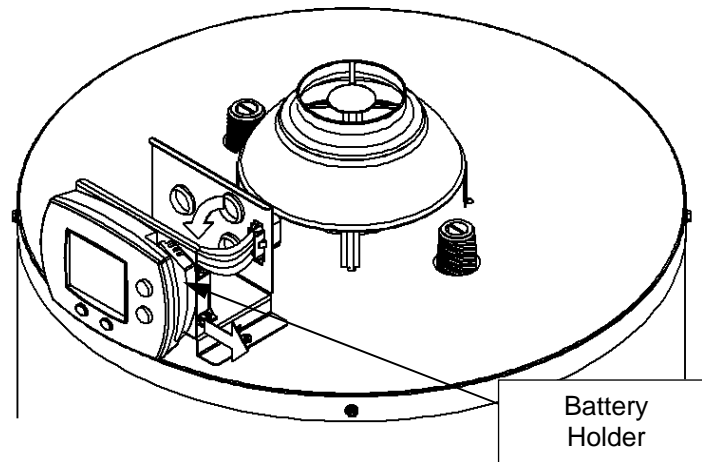

Figure 31
Step 3: Remove the battery holder by depressing its top edge and pulling the holder to the right, as shown in Figure 31.